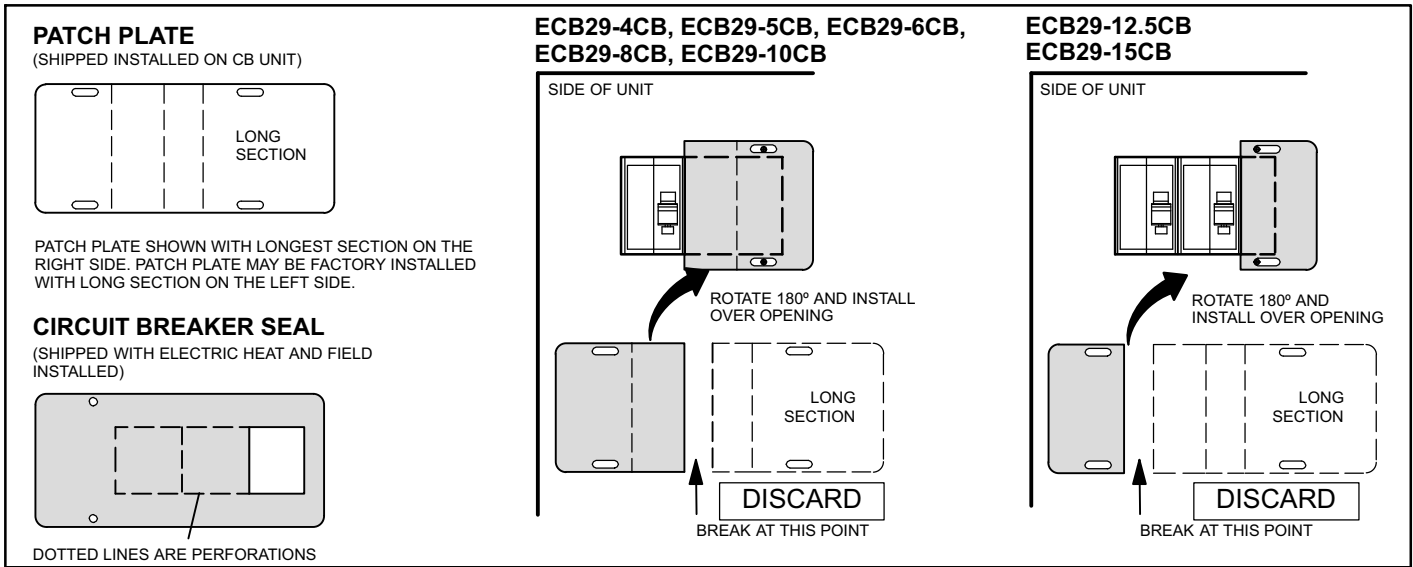

Figure 5. Circuit Breaker Heater and Patch Plate Configuration (ACBX32M-018/024 and CBX32M-018/024)
5. Break the patch plate for the specific size of electric heat section that you are installing. Discard the unused piece of patch plate. Figure 5 illustrates both the **ACBX32M-018/024** and **CBX32M-018/024** units. See figure 6 for all other air handler units.